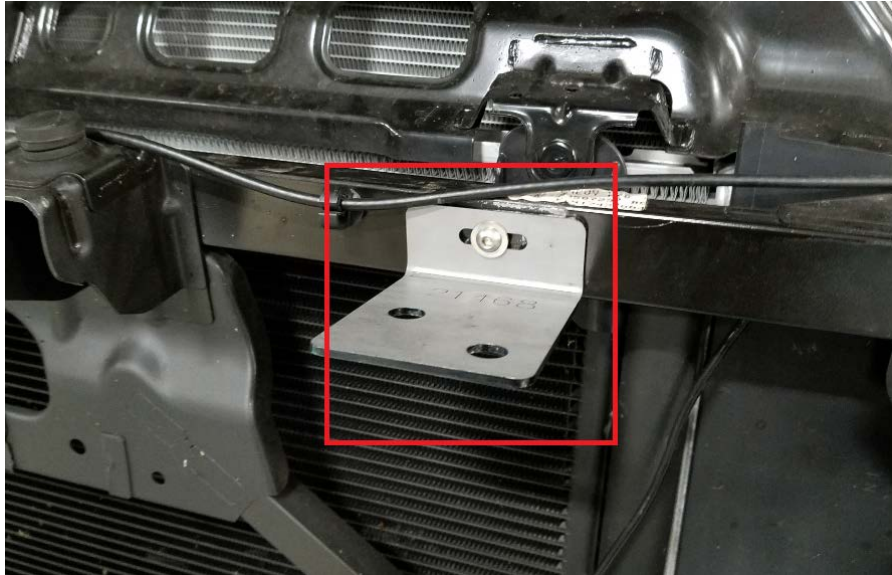

Figure 16
- C. Install the 2 loose brackets to the metal frame under the hood (Figure 16). Use  $\frac{1}{4}$ " bolt in the hole you drilled out in Step L of the Bumper removal. Leave the bolt loosely tightened for mounting of the center grill section.